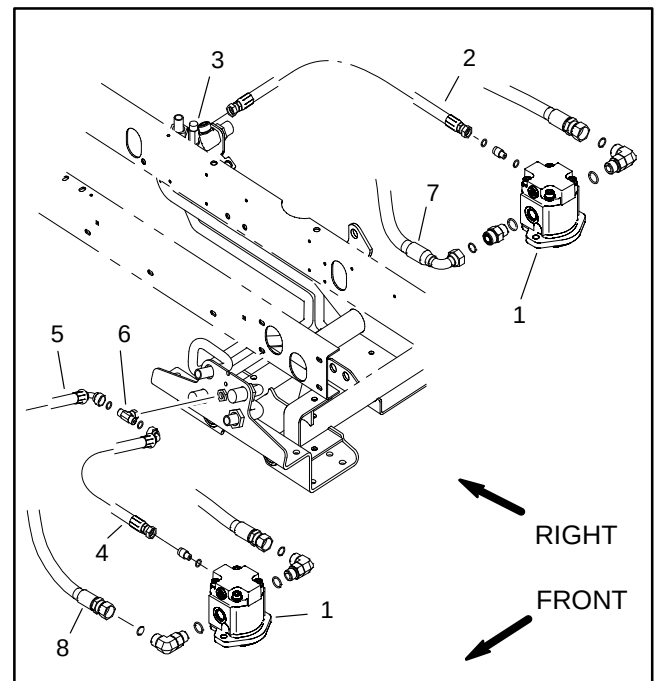

Figure 33
6. Disconnect the return hose from the motor. The return hose is the first hose counterclockwise of the smaller (center) case drain hose (Fig. 33).
8. Disconnect hose from deck motor case drain at the bulkhead T-fitting (Fig. 33). Plug the T-fitting to prevent system contamination. Place open end of disconnected case drain hose into a drain pan.